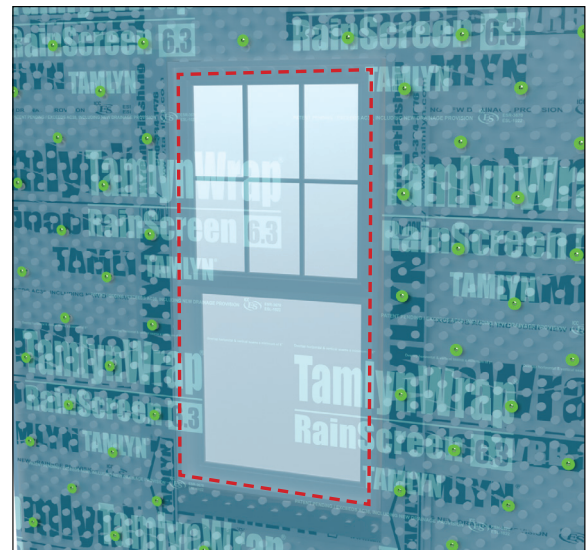

FIG 3:
- Complete installation of **TamlynWrap® RainScreen 6.3** over the existing WRB system as shown in **(FIG 3)**.